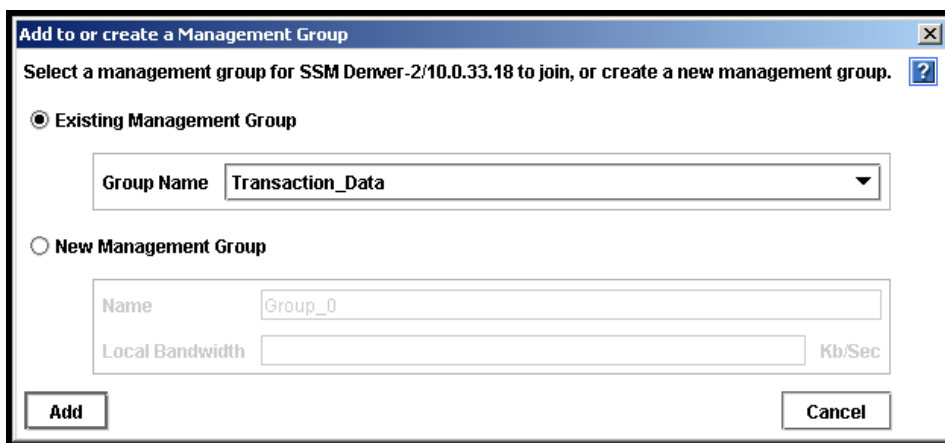

Figure 137. Adding an SSM to Existing Management Group
2. Right-click and select Add to New or Current Management Group. The Add to or Create a Management Group window opens, shown in Figure 137.